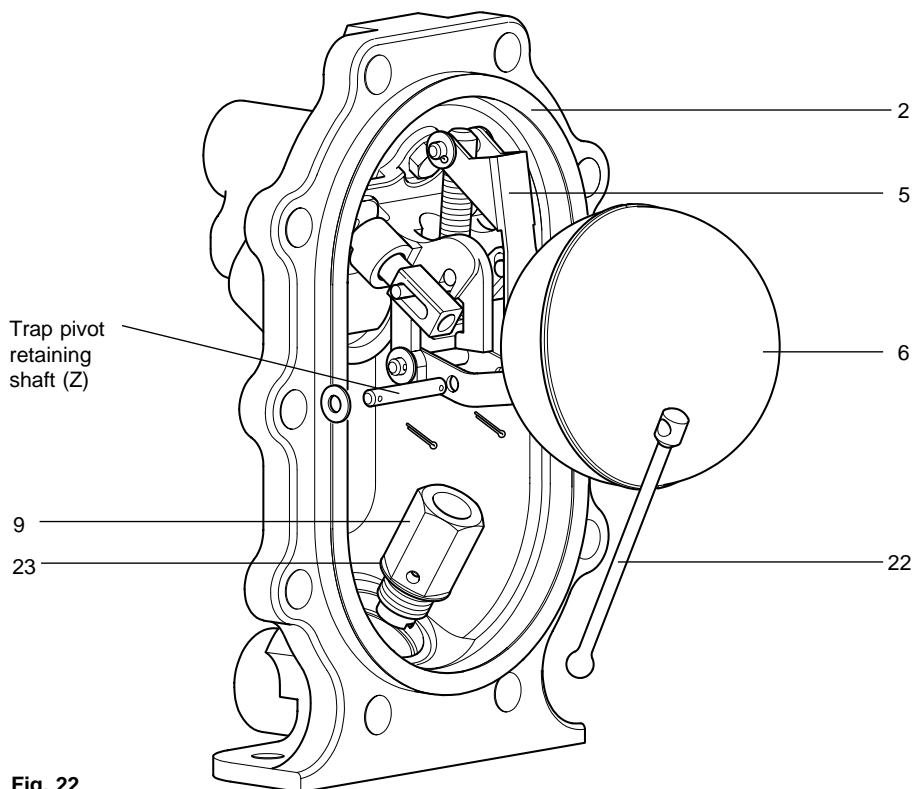

Fig. 22
3. Carefully fit a new gasket (item 2) into the existing body.
4. Remove split pin, washer and shaft from the trap pivot (Z) (See Fig. 22).
5. Remove trap valve stem (item 22) from the mechanism.
6. The float and lever (items 5, 6) can now be swung up out of the way leaving access to the trap and check valve assembly.
7. Using the 24 mm A/F socket unscrew the trap and check valve housing (item 9).
10. Before fitting a new mechanism, clean the trap housing bore within the cover ensuring any sludge or scale is carefully removed. Remember to fit a new gasket (item 23).
13. Refit the trap valve stem and trap pivot shaft (Z) (length 40 mm) remembering to use new split pins and washers - to the trap lever (item 5).
14. Move the float to its upper and lower limits to ensure the trap mechanism operates smoothly and the valve stem (item 22) slides smoothly within its guide.